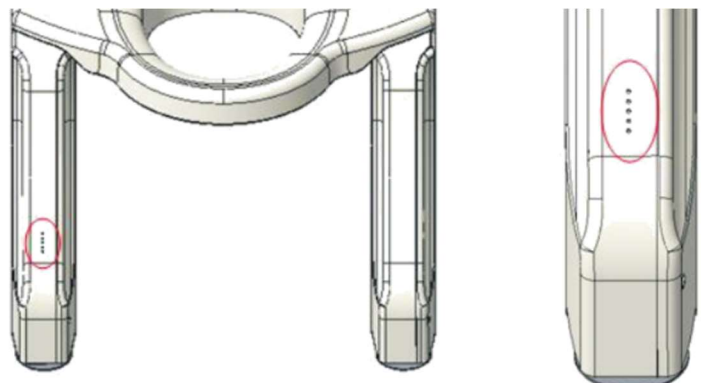

Fig 3 Power quantity display
- 5) The power display is located in the position shown in Fig 3. To save power, the battery is only displayed during the operation of the device. The display only shows the last lamp, and when it is red, it means that the battery is low and need to be charged immediately.